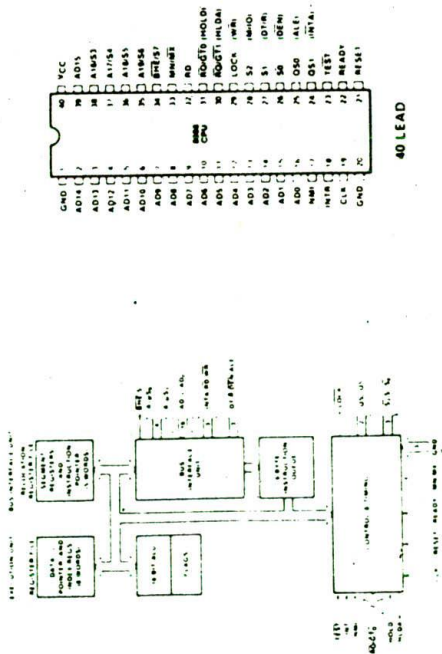

Figure 1. IAPX 86/10 CPU Block Diagram
The internal functions of the IAPX 86/10 processor are partitioned logically into two processing units. The first is the Bus Interface Unit (BIU) and the second is the Execution Unit (EU) as shown in the block diagram of Figure 1.